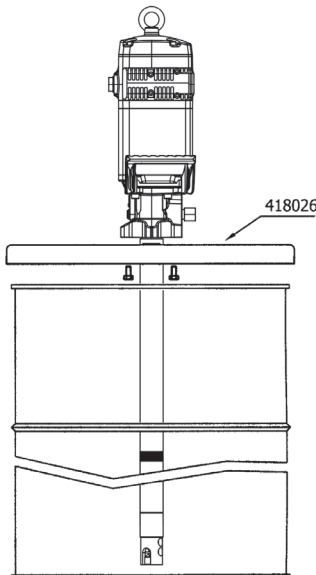

Fig. 2
- **a.** Mounting with reinforced cover (418026 for 185 kg drum and 418025 for 50 kg drum). Insert the pump through the cover and fasten it with the enclosed screws. Insert the pump through the bung opening and fasten the cover onto the drum firmly (see figure 2).